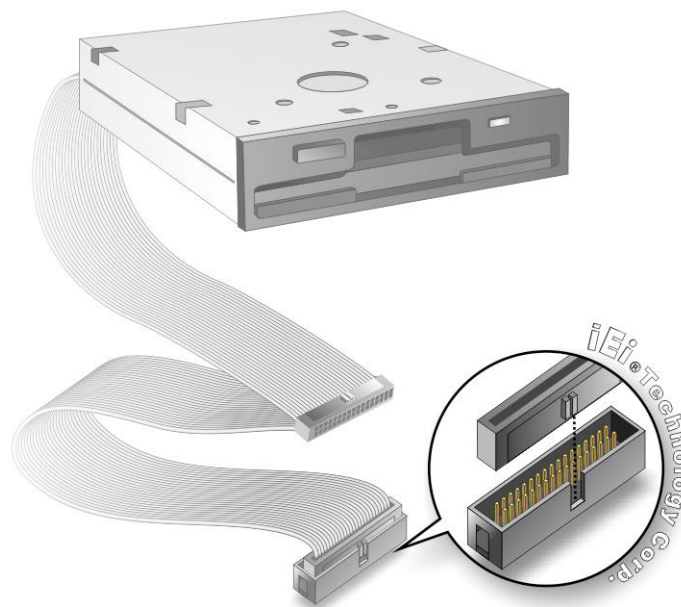

Figure 5-10: FDD Cable Connection
Step 2: Insert the connector. Connect the FDD cable connector to the on-board connector. See **Figure 5-10**. A key on the front of the cable connector ensures it can only be inserted in one direction.